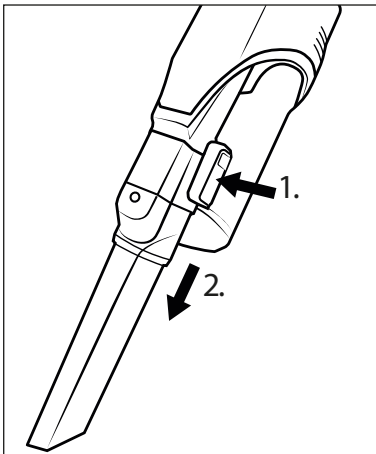

Fig. 15
- ◆ To remove the accessory, press and hold the release button on the accessory, then pull the accessory off the suction pipe 24 or the suction opening of the appliance (see Fig. 15).